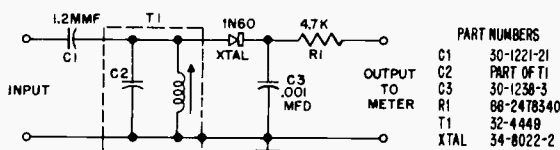

Figure 1. 4.5 mc. Detector Tube
- (1) Inject 4.5 MC AM signal into L18D or use station signal.
- (2) Connect 4.5 MC detector (see circuit, figure 1) to L1D (pin 2 of CRT).
- (3) Connect 20,000 ohms/volt meter, set to 2.5 volt range, to detector output.
- (4) Turn contrast control fully clockwise (to maximum).
- (5) Adjust 4.5 MC trap. (T2D) for minimum indication.